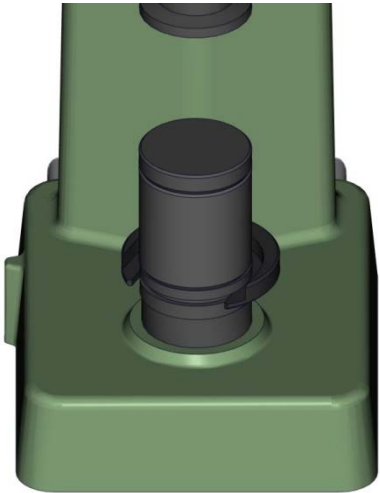

Figure 10: 10mm calibration block stacked on 50mm calibration block and pedestal and collar on pedestal support
4. Place the 50mm calibration block on the pedestal as shown in Figure 10.
8. Place one of the 10mm calibration block on the 50mm calibration block as shown in Figure 10.
9. Place the 50mm calibration block on the pedestal as shown in Figure 10.
13. Place one of the 10mm calibration block on the 50mm calibration block as shown in Figure 10.